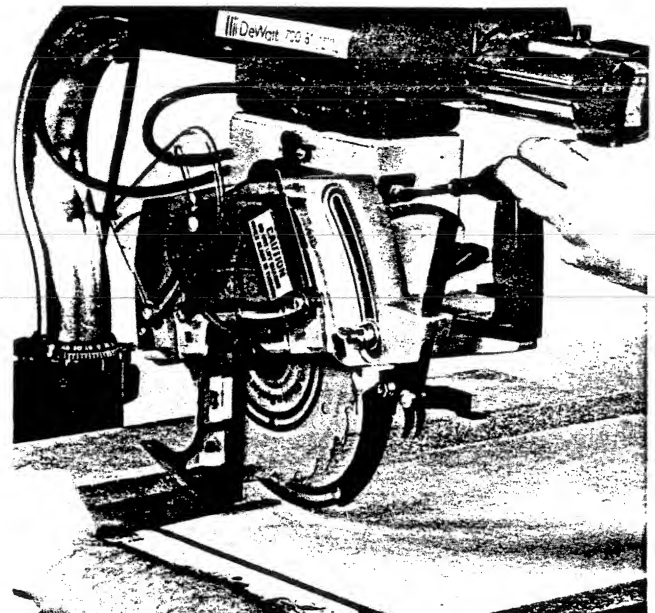

Fig. A8
3. Raise the lower guard and place your combination square on the table against a flat portion of the blade Fig. A8. If the blade is not 90° , loosen the screw that holds the bevel pointer and also loosen the bevel lock knob. Shift the saw until the blade is 90° .